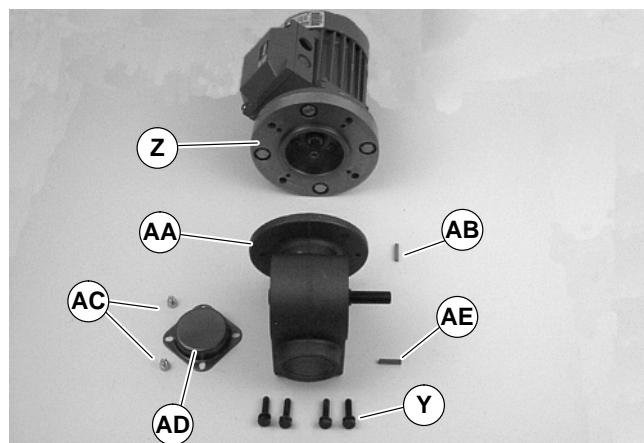

Figure 16
5. Remove four screws (Y of Figure 16). Detach motor with adapter flange (Z) from gear reducer (AA). Retain motor output shaft key (AB).
11. With key (AB of Figure 16) in keyway, slide motor with adapter flange (Z) and gear reducer (AA) together. Install screws (Y) and tighten.